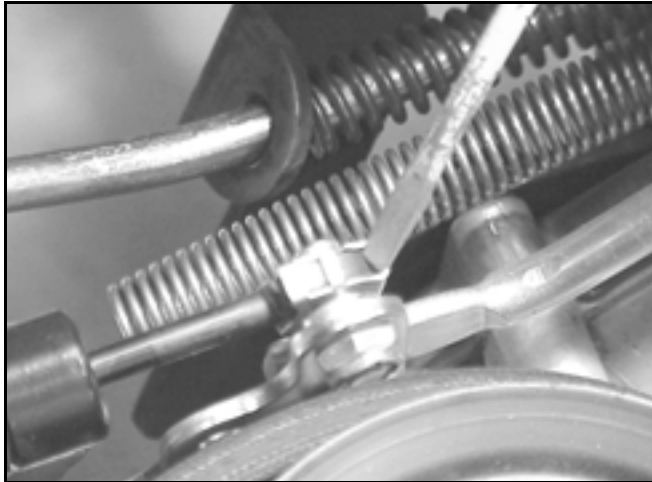

Figure 124
9. Remove the damper cylinder located next to the transaxle input pulley. To remove the fastener on the end of the cylinder, insert the blade of a screwdriver between the back side of the fastener and the shaft. Apply a little pressure toward the back of the fastener and pull the damper cylinder off the shaft (Figure 124).